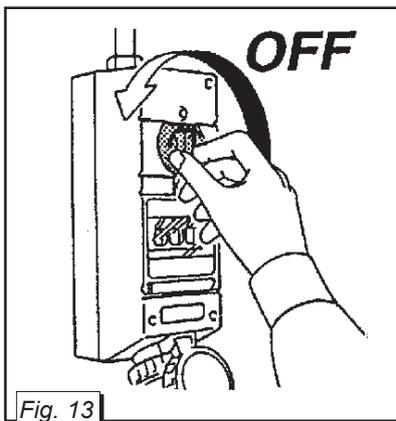

Fig. 13
- Disconnect the line isolator from the power supply (see fig. 13).